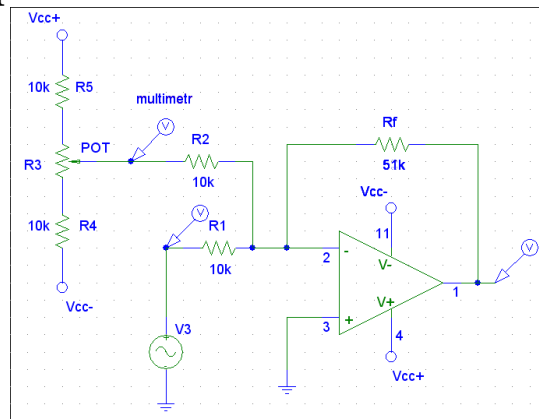

Fig. 3 Summing amplifier
1. Solder circuit illustrated in fig. 3. Potentiometer $R3 = 50k\Omega$.